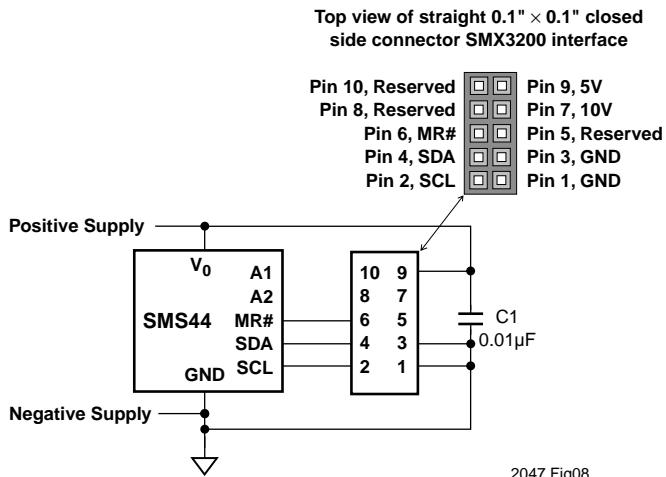

Figure 8. Programming Hookup
4. Connector J1 is an SMX3200 (see Figure 8).